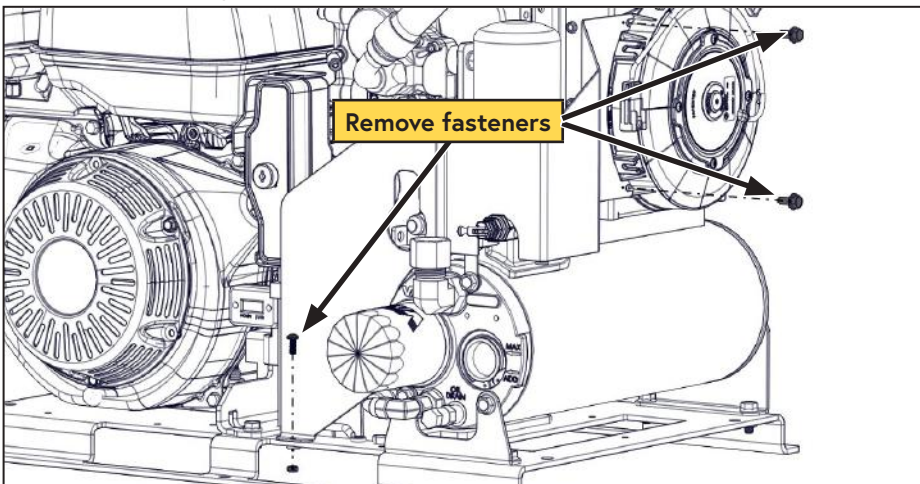

Figure 27 — Remove shroud
- ☐ Remove the shroud, there are 3 fasteners that secure it to the base and WHASP Tank (Figure 27).